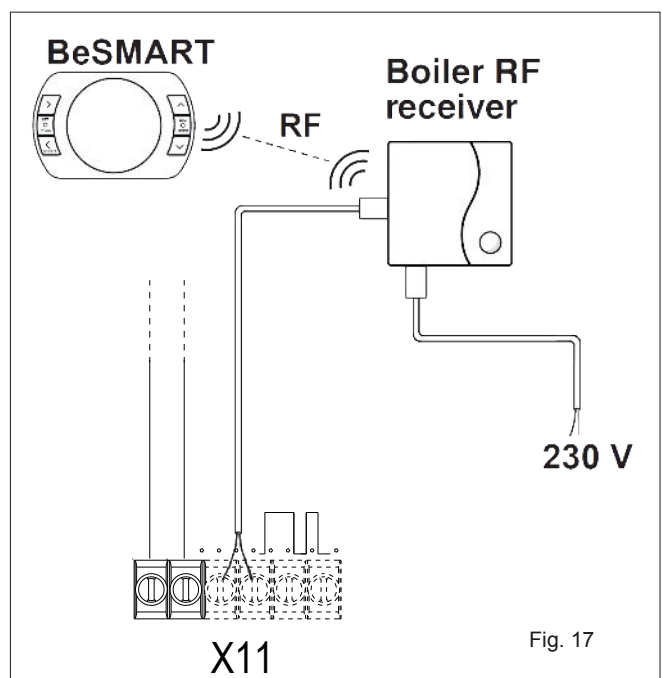

Fig. 17
- Voltage-free programmable room thermostat, RTC clock deactivated: remove the black link-wire from terminal block M4 and connect the two wires (C & NO) from the programmable room thermostat; and enable the auxiliary switch (SW).
- BeSMART or Hi-Comfort Opentherm device: refer to fig. 17.